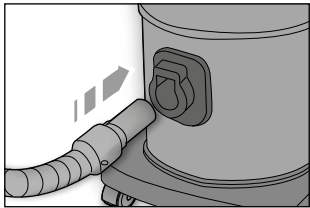

Fig. 3
- Insert the extremity of the flexible tube (Q) into the appropriate attachment (A) on the body of the vacuum and block it by pressing it in until a click is heard (FIG. 3). To remove the tube, press the button positioned on its extremity and extract it.